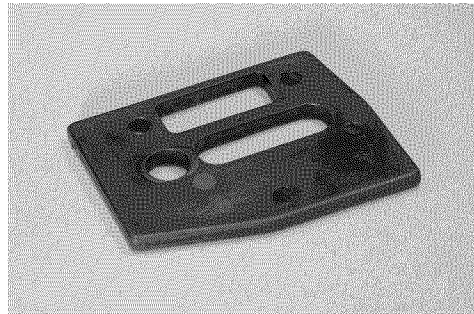

Figure 1
4. **Remove and Discard** the plastic shipping spacer from the bar studs. The purpose of this spacer is to keep the clutch cover in the correct position when the guide bar is not installed on the power unit. **SEE FIGURE 1.**